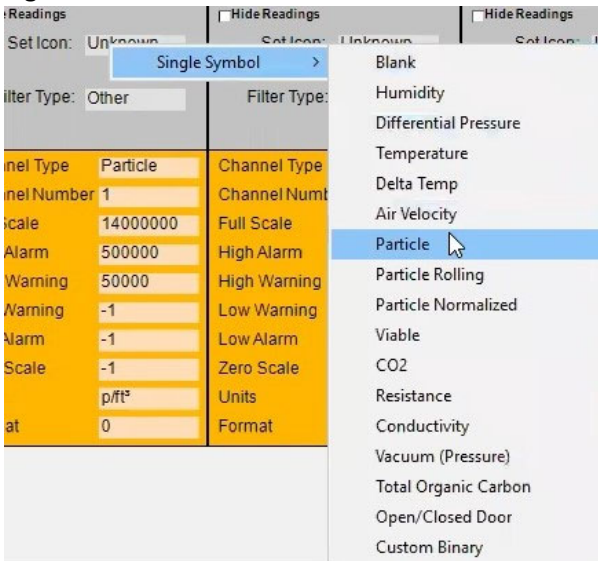

Figure 2.5
2.5 If desired, the icons on this screen can be changed. Update the channel icon by clicking in the “Set Icon” window for each channel and selecting a different symbol from the list, as shown in Figure 2.5.